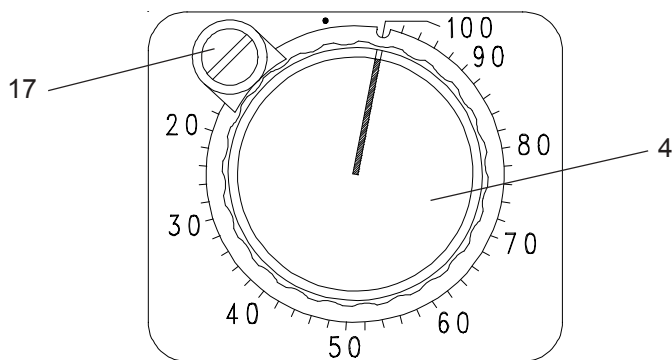

Figure 3.1 - Mechanical Stroke Adjustment Knob
- c. The mechanical stroke adjustment is a knob (4) with a notch followed by a line as a pointer to read the graduation directly from 0% to 100%. Adjust only when the pump is running. The screw lock (17) must be loosened by about one turn before the knob can be turned. Recommended minimum stroke length is 30%. See Figure 3.1.